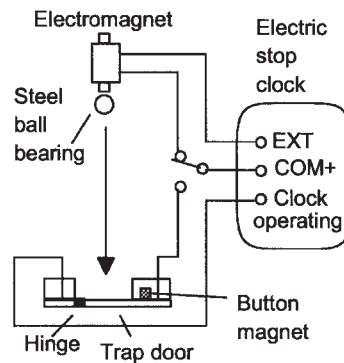

Figure 4.14 Activity 1
- 1 Determine the acceleration due to gravity by an experiment involving the free fall of some object. One possible method is to use an electric stop clock to measure the time t taken for a steel ball bearing to fall over a distance s of about 1 m (Figure 4.14). With the two-way switch in the 'up' position, the ball bearing is held by an electromagnet. When the switch is changed to the 'down' position, the magnet releases the ball and simultaneously starts the clock. When the ball reaches the end of its fall, it strikes a 'trap-door' switch which opens and stops the clock. The equation $s = \frac{1}{2}gt^2$ can then be used to compute g .